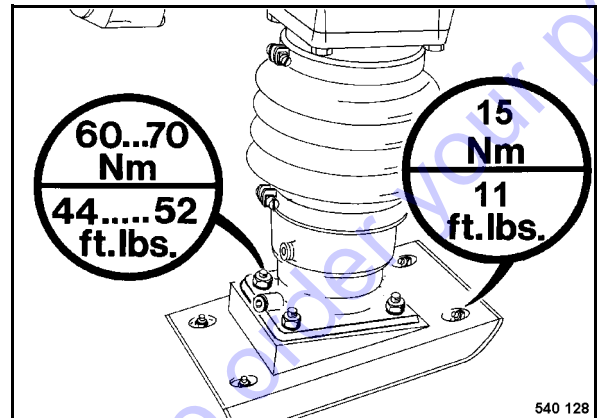

Fig. 42
- Retighten the screws (Fig. 42).